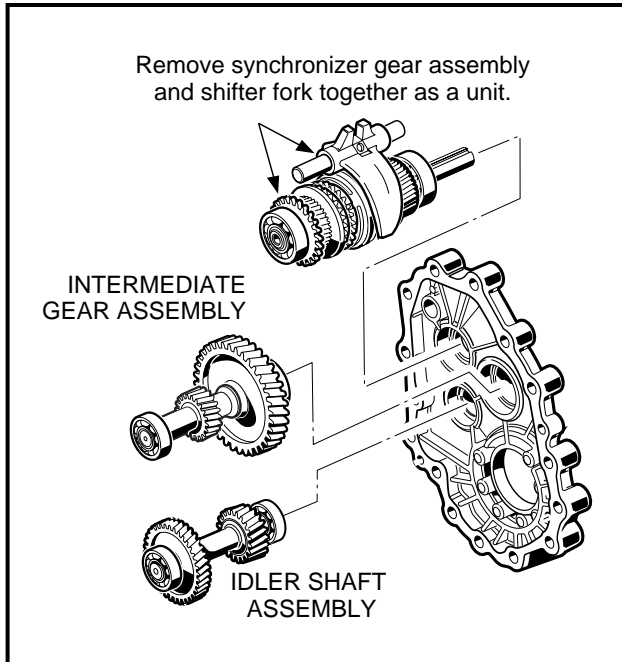

Figure 16-37 Remove Intermediate Gear
9. Continue to rock and loosen the remaining gear assemblies until the intermediate gear assembly can be removed from the case. Then remove the idler shaft assembly (**Figure 16-37, Page 16-17**).
10. Remove the synchronizer gear assembly and shifter fork assembly as a unit from the case (**Figure 16-37, Page 16-17**).